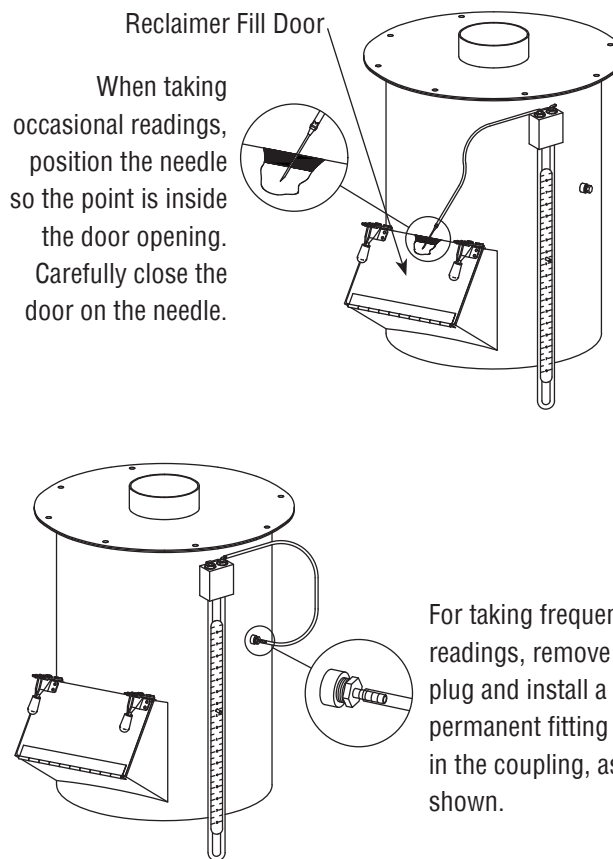

FIGURE 3
5.4.6 | Needle placement: **Figure 3** shows the manometer setup for taking both periodic and frequent static pressure readings.
5.4.6.2 | Taking frequent readings using a permanent fitting: A permanent fitting may be installed in the reclaimer wall, as shown in **Figure 3**, for taking frequent static pressure readings. Permanent fittings must accommodate the 3/16" ID tubing and have a means of being capped when the manometer tube is removed. Capping the fitting will prevent leaks that alter the reclaimer's separation efficiency. Air drawn into the reclaimer will cause carryover of good media to the dust collector.